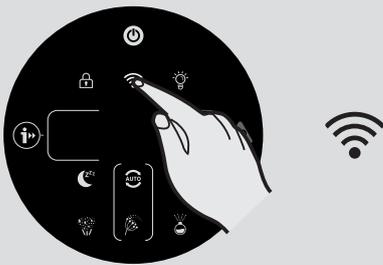

Fig. 7
6. Press and hold the Wi-Fi button on the display for 5 seconds, there will an audible beep and the Wi-Fi button will start flashing to indicate it is waiting for a connection. [Fig. 7]